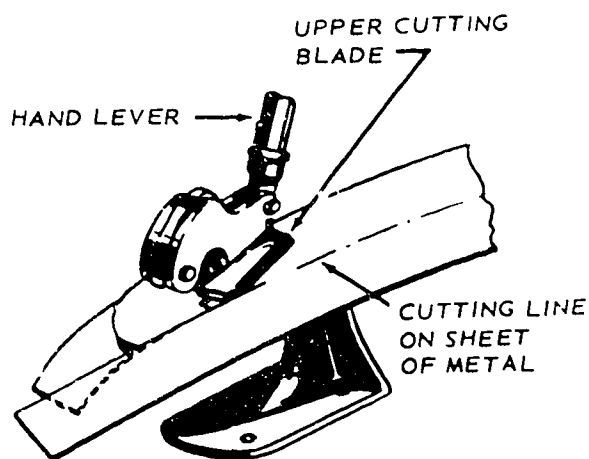

Figure 1-6. Throatless shears.
**Throatless Shears.** These shears, illustrated in figure 1-6, get their name from their construction because the frame is "throatless," and there are no obstructions during cutting. Therefore, a sheet of any length may be cut, and the metal can be turned in any direction to allow for cutting irregular shapes. The cutting blade (top blade) is operated by a hand lever. An example of the use of throatless shears is the cutting of a rectangular elbow from 16-gage sheet metal. Radius cuts in this heavier gage metal can be made easily with throatless shears. Safety precautions include keeping fingers away from the cutting blades, returning the handle to the full UP position after the cutting operation, and protecting fingers and hands from burrs when guiding metal through the cutting blade.